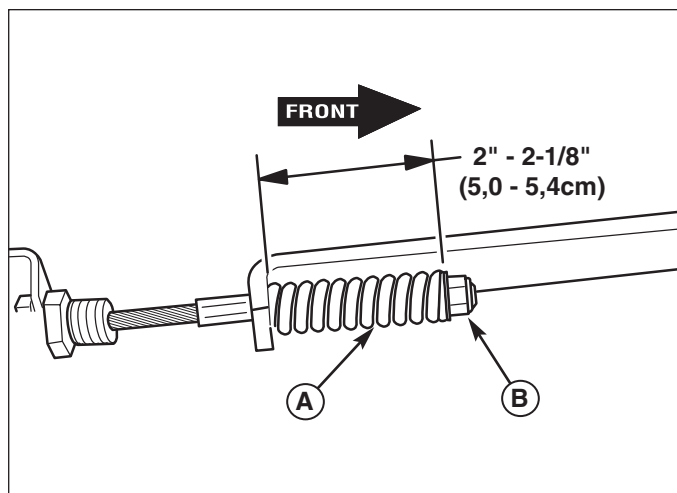

Figure 32. Parking Brake Adjustment
2. Locate the brake spring (A, Figure 32).
4. If the spring is not within this range, release the parking brake and turn the adjustment nut (B) to compress or release the spring.